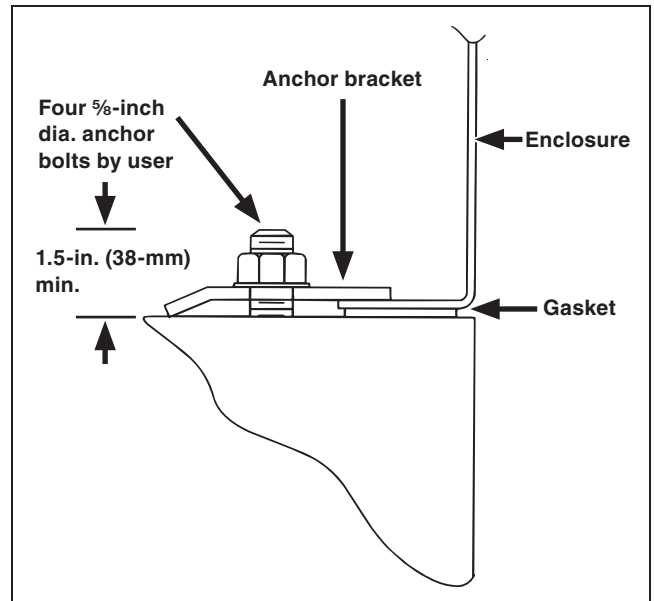

Figure 10. A proper anchor-bracket placement.
- STEP 5.** Secure the tank to the pad using the anchor brackets provided. See Figure 10 on page 13.
- STEP 3.** Secure the enclosure to the pad using the anchor brackets provided. See Figure 10.